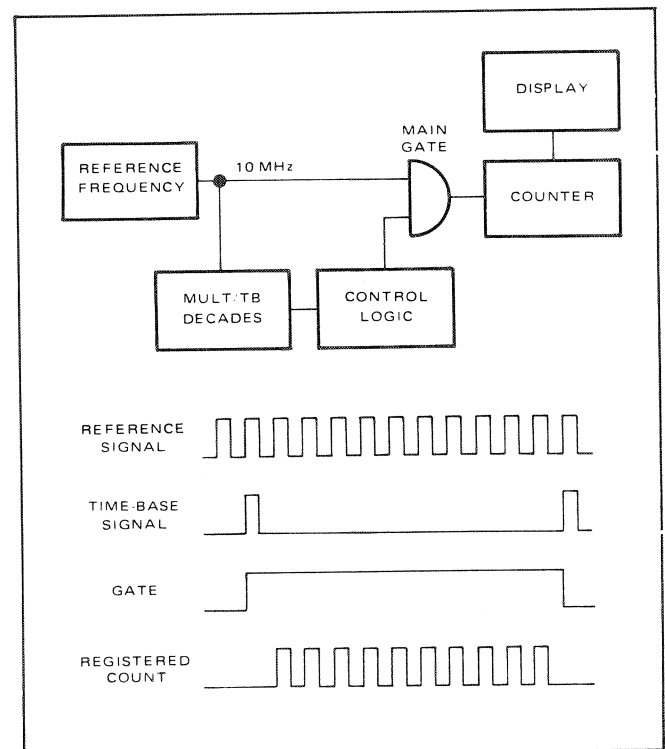

Figure 4.2 - Self-Check Mode
4.5 Figures 4.2 through 4.11 summarize the basic principles of each operating mode in simplified form. Any point (positive or negative) on the input waveform can be selected to trigger the generation of pulses to the main gate.
4.11 The Self-Check mode of operation (figure 4.2) enables the operator to check for proper operation of the counter. The reference frequency is used for two purposes. It is counted by the counter during the measurement time and it generates the time base frequency that produces the gating signal. Proper operation of the counter is determined by varying the time base and observing the readout (see Section 3, table 3.3).